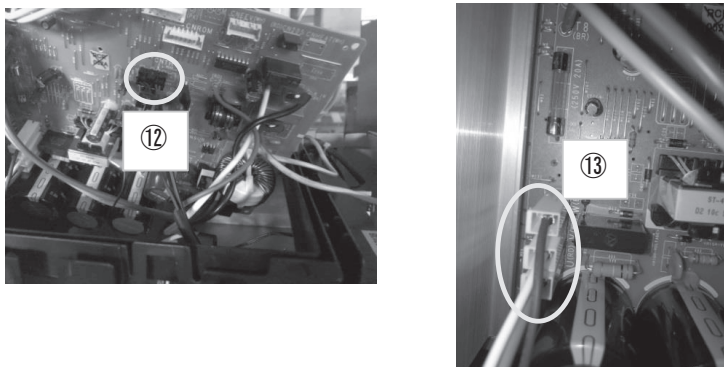

Fig.6 CnTH and power cable of compressor (U,V,W)
- 12) Disconnect CnTH (Black) on control PCB. (Fig.6 ⑫)
13) Disconnect a power cable of compressor (U,V,W) from control PCB. (Fig.6 ⑬)